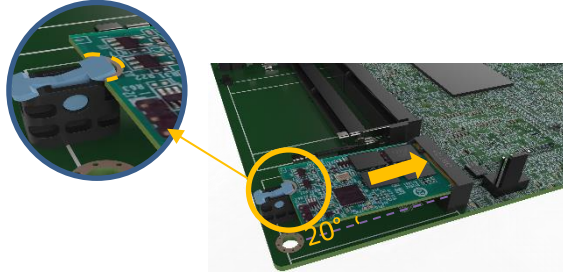

Figure 4-5: Securing the M.2 Module
Step 4: Press the M.2 module down until it is secured into place by the retainer. (See **Figure 4-5**)